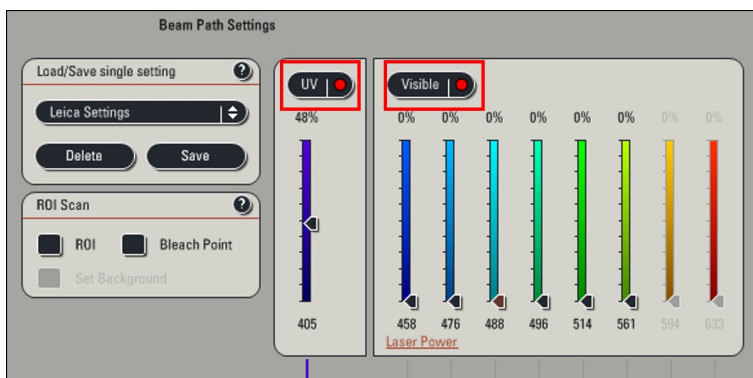

Figure 6: Laser Control Settings.
1. Press the **UV** button to engage the 405 nm laser. See Figure: 6
3. Press the **Visible** button to engage the additional laser lines. See Figure: 6